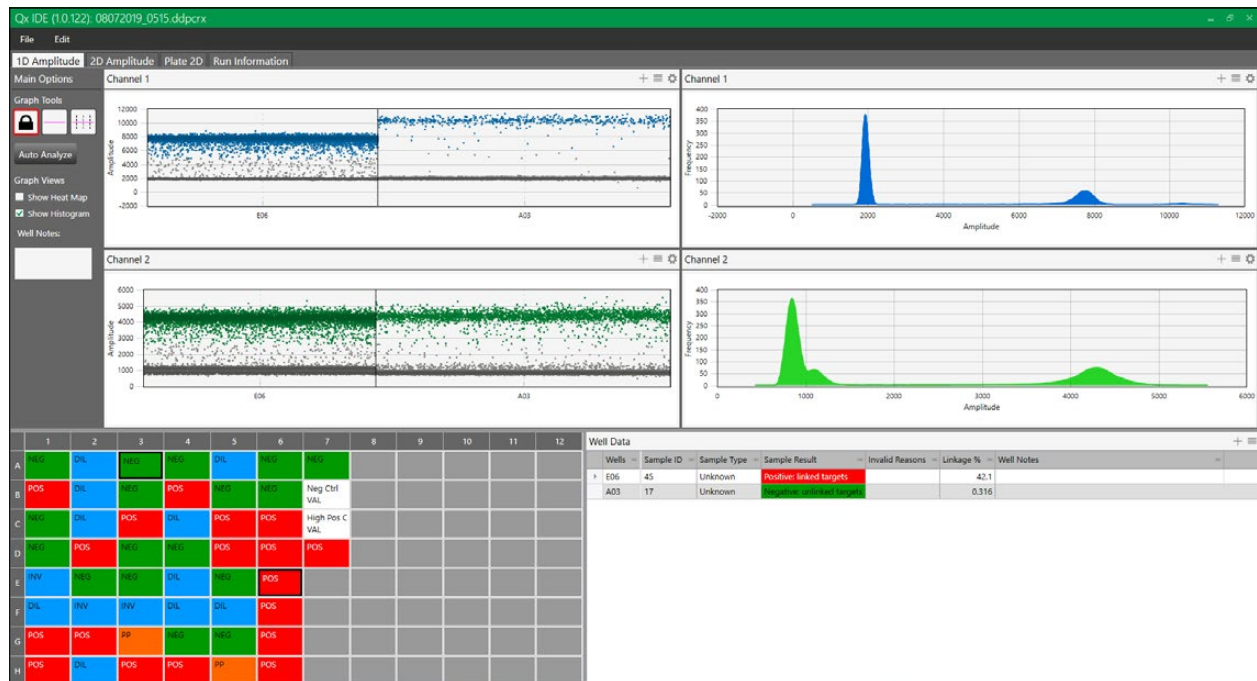

Fig. 2. Two selected wells in 1D Amplitude tab.
3. Figure 2 shows two selected wells in the 1D Amplitude tab.